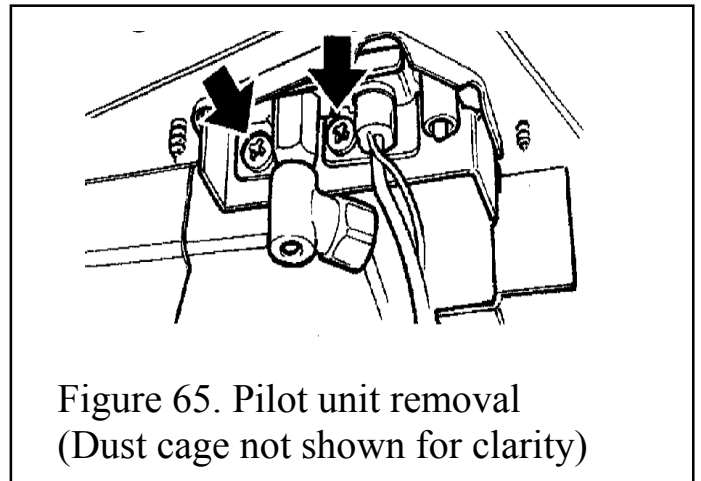

Figure 65. Pilot unit removal
8. If lying the burner on its back, unscrew and remove the two ceramic support brackets from the top of the burner unit. This will avoid damage to the brackets and the worksurface (see figure 65)
12. Remove the first screw securing the dust cage to the pilot unit & burner. Carefully remove the dust cage and place aside. See figure 65.
13. Remove the second screw securing the pilot unit to the burner. Remove the pilot unit and place it aside. See figure 65.